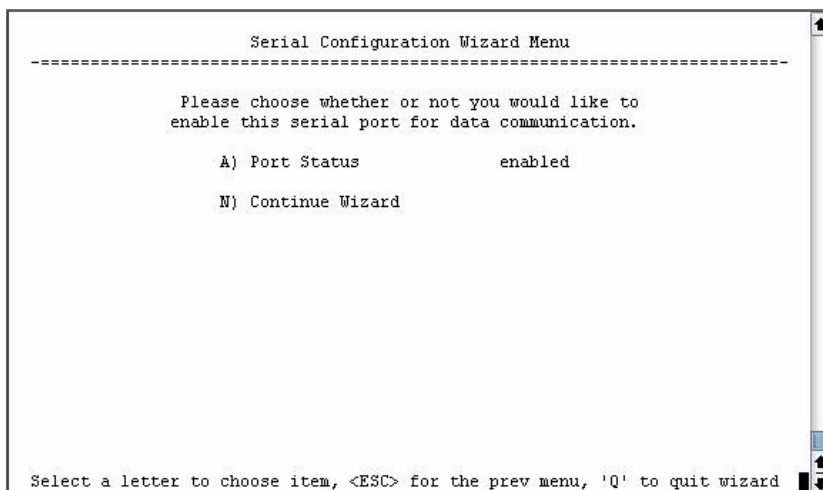

Figure 3-60. Serial Port Status Screen
7. On the next screen (Figure 3-60 on Page 94), select **A** and use the spacebar to enable the serial port for data communication. Press **N** to continue the wizard.